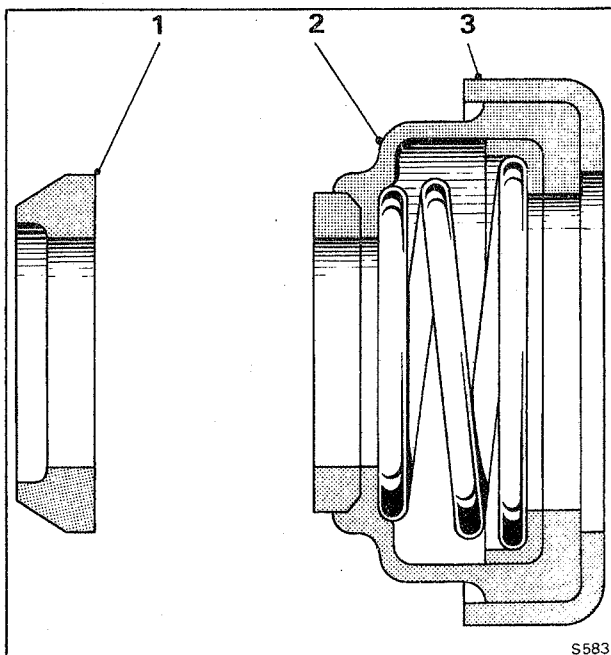

Fig. L6 Shaft seal and counterface
2. Lightly coat the inside surface of the gland cover with a waterproofing solution such as 'Silastic' then fit the sealing gland assembly into the gland cover (see Fig. L6).